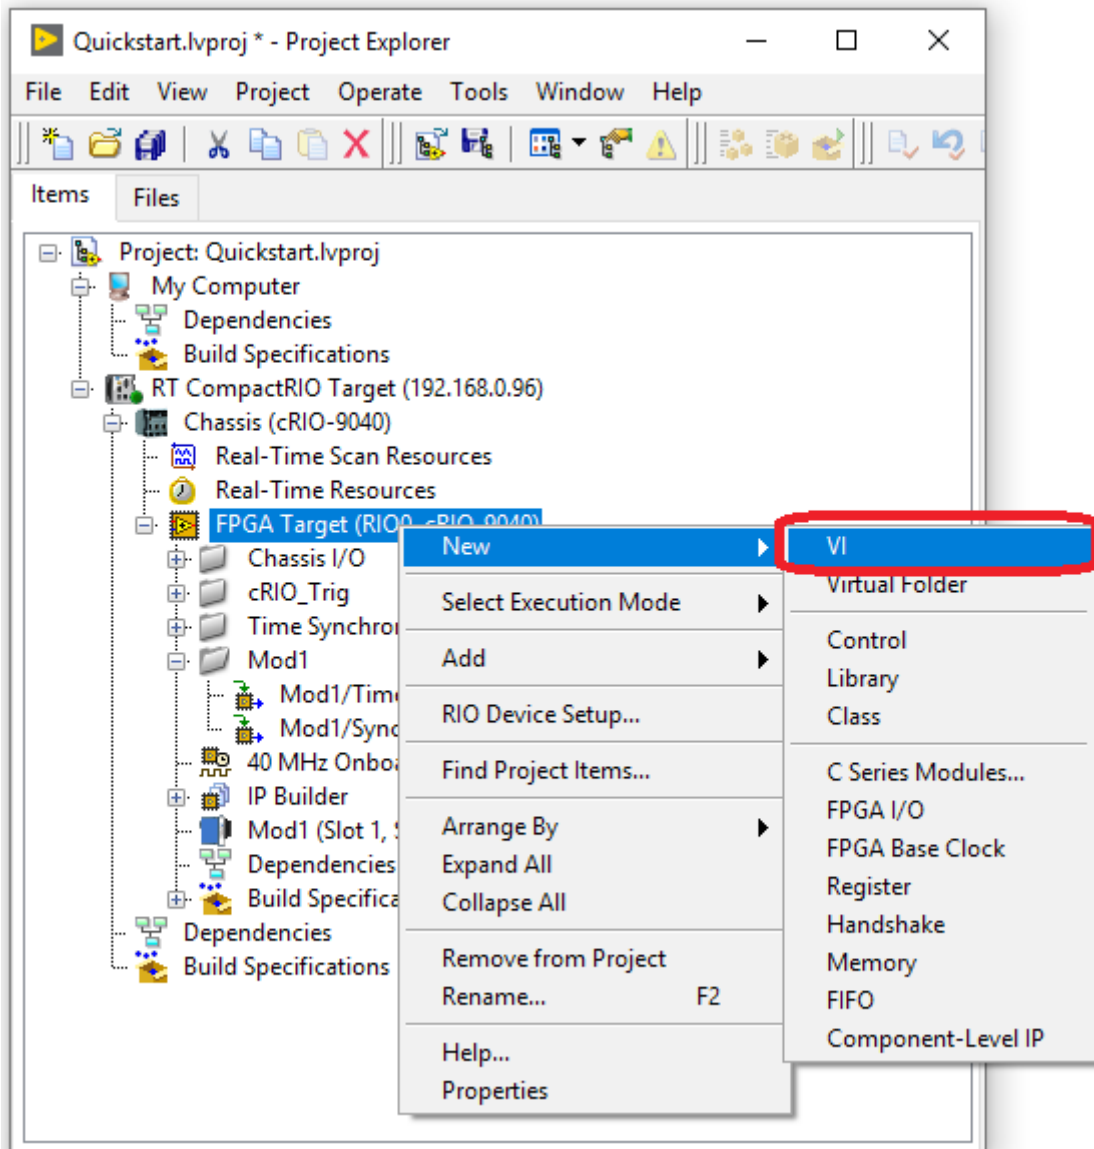

Fig. 4: Quick Start – Add new FPGA VI
11. Create a new FPGA VI in the project explorer window. For this right-click on the *FPGA Target (RIOo...)* and select *New* → *VI*. Refer to figure 4 below: